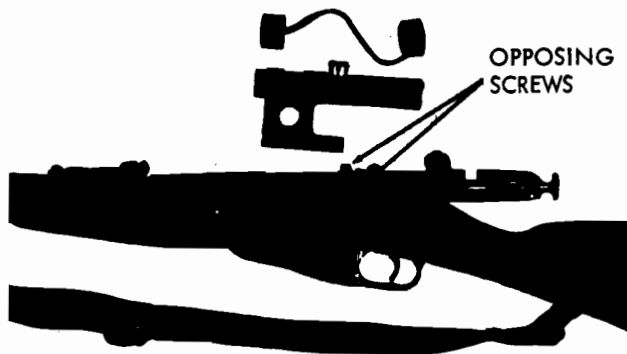

Figure 51. Zero adjustments for PU telescope.
b. The PU telescope can be zeroed to the rifle by means of adjustment screws in the mount. Elevation zero is accomplished by alternately loosening and tightening the vertical opposing screws (fig. 51) near the lock screw. Windage zero is accomplished by adjusting the screw in the upper mount that bears against the lower mount; this determines how close to the receiver the rear mount can move.